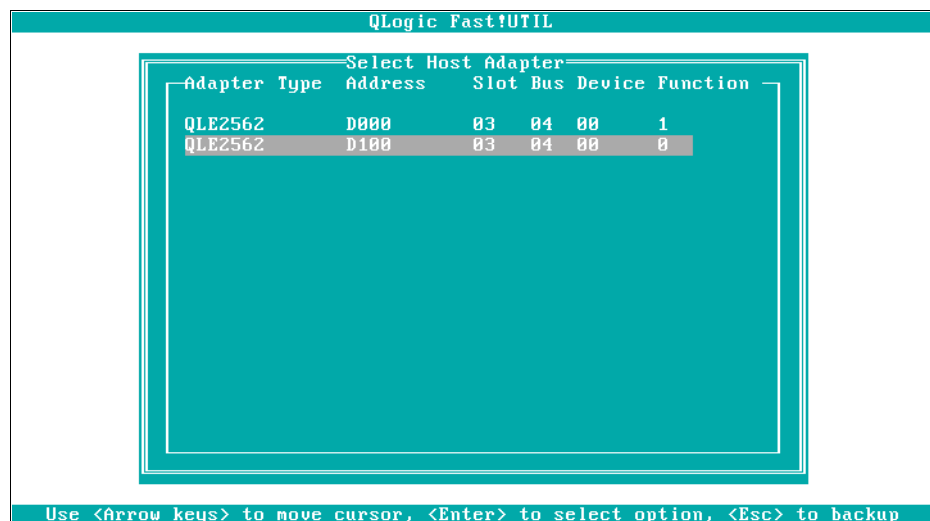

Figure 2-31 Selection of the second port
- To install the second path on the QLogic HBA, use the same procedure described in 2.6.1, “Configuring the QLogic HBA to use the Boot LUN” on page 37, but this time, select the second path as shown in Figure 2-31.